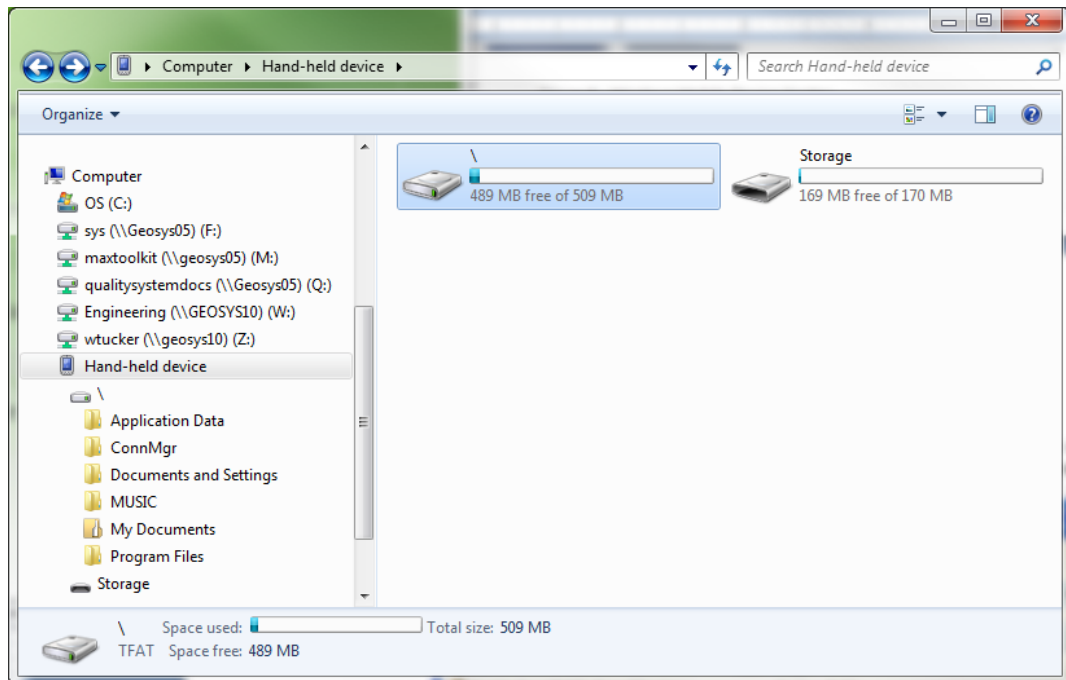

Figure 18 - Windows Explorer Window Displaying HHD Root Folder
- 1) From the Windows Mobile Device Center window on the PC (see Figure 17 above) click on the folder icon labeled “Browse the contents of your device” to call up an Explorer Window for the HHD (see Figure 18). The procedure for ActiveSync is very similar.